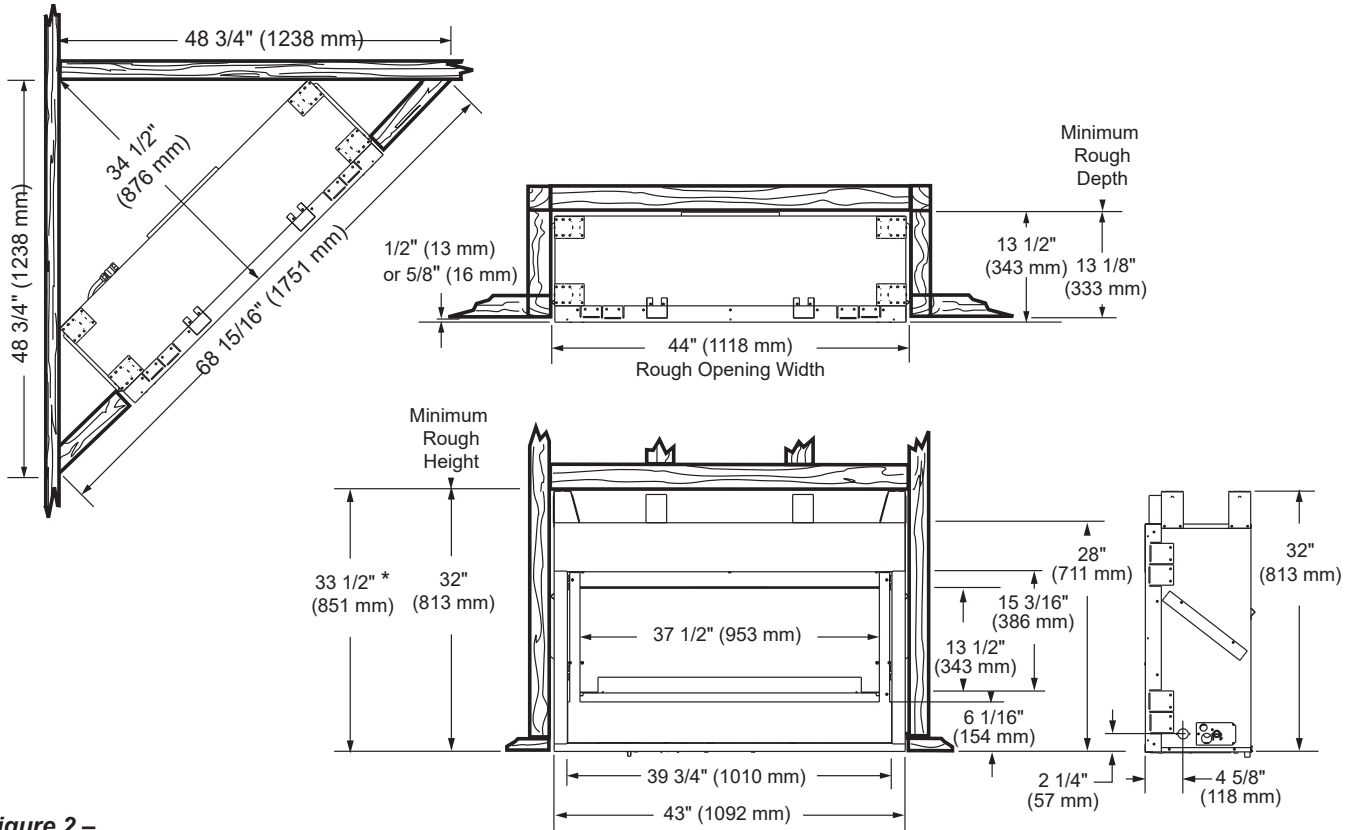
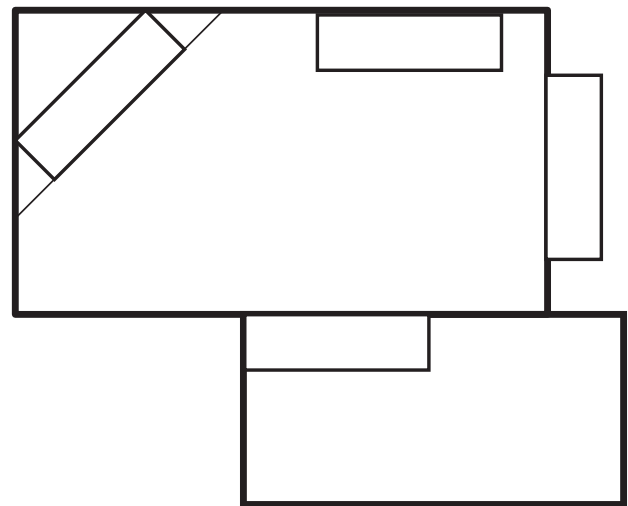
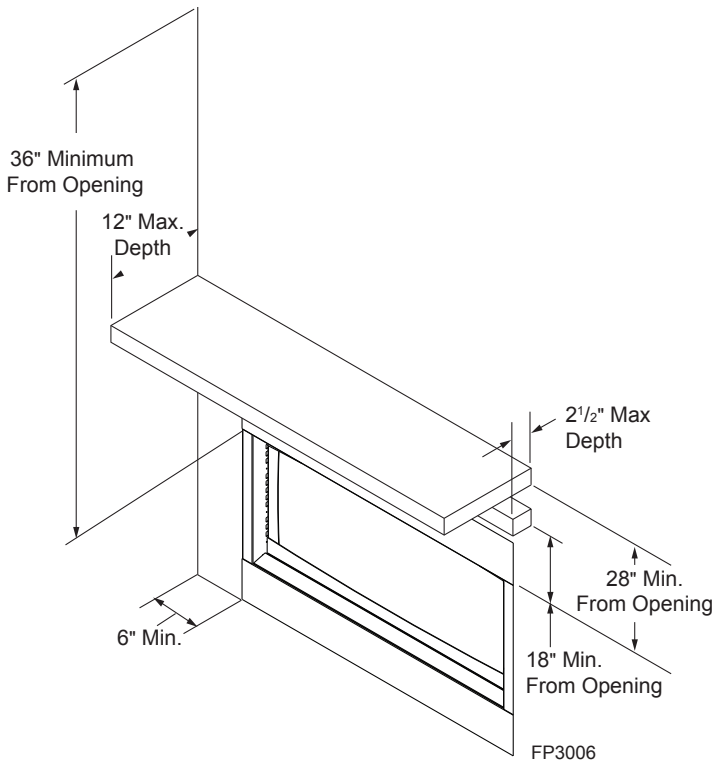

Figure 2 –
Figure 3 – Possible Fireplace Locations
Figure 4 – Sidewall and Ceiling Clearances
1. Position fireplace in desired location. Refer to the *Fireplace Location* (page 9, Figure 3) and *Clearances and Height Requirements* (page 10, Figures 4 and 5) sections and *Fireplace and Framing Dimensions* (page 7, Figure 2) illustration found in this manual.
- Minimize modifications to existing construction. Refer to *Figure 3* below for location suggestions.
Ensure that minimum clearances shown in *Figures 4 and 5* are maintained. Left and right clearances are determined when facing the front of the firebox.
Sidewall Clearances — The clearance from the inside of the appliance to any combustible adjacent wall should not be less than 6". *Figure 4*
Ceiling Clearance — The ceiling must be at least 36" from the firebox opening. *Figure 4*
The dimensions shown in *Figures 4 and 5* are minimum clearances to maintain when installing this heater. Left and right clearances are determined when facing the front of the heater.
Mantel clearances — Must meet the clearance requirements detailed in *Figures 4 and 5*.